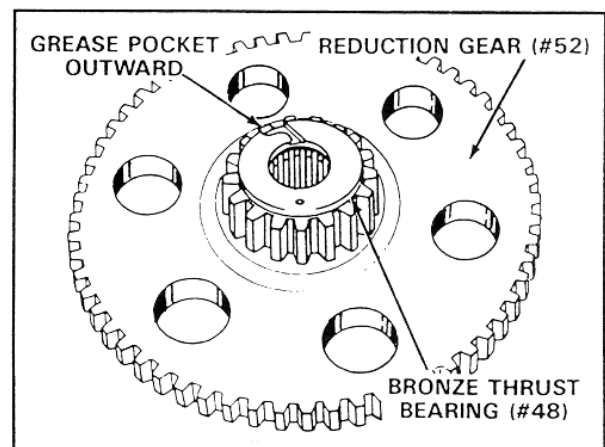

FIGURE 18
8.05 **IMPORTANT!** Bronze thrust bearing (#48) grease pocket must face outward. See figure 18.